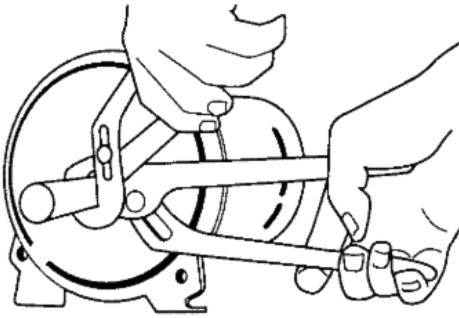

Figure 17: Remove Venturi
4. On 1/2 HP models, unscrew venturi tube from impeller. On 3/4 and 1 HP models, venturi tube is screwed into the pump case (Figure 17).